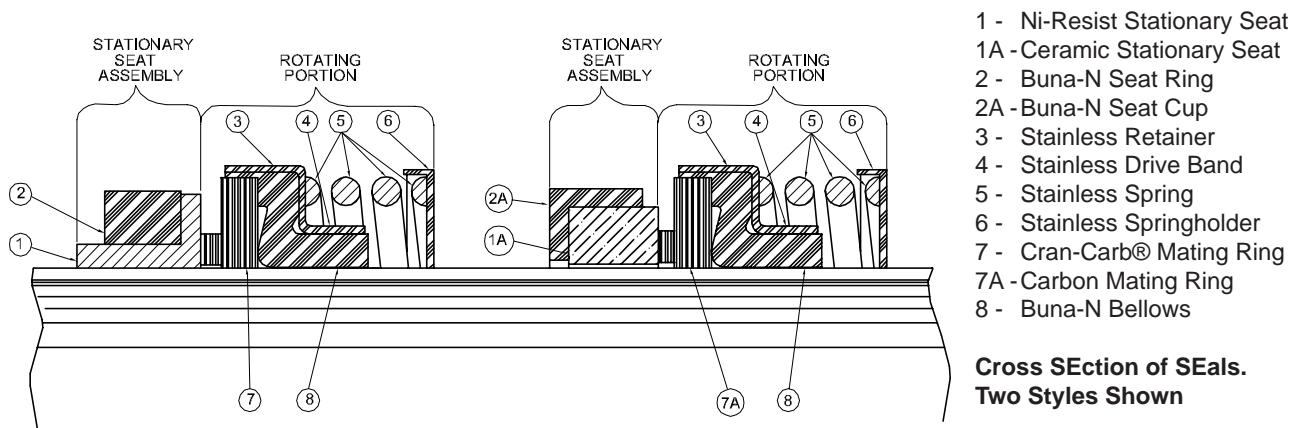

FIGURE 2
Install the seat assembly (1 and 2 or 1A and 2A, see Figure 2) in pump side adapter (12) using SAE# 10 oil on the rubber parts. They may install easier by first inserting the rubber part and then sliding the seat part into the rubber. All of this must be done with the fingers only.